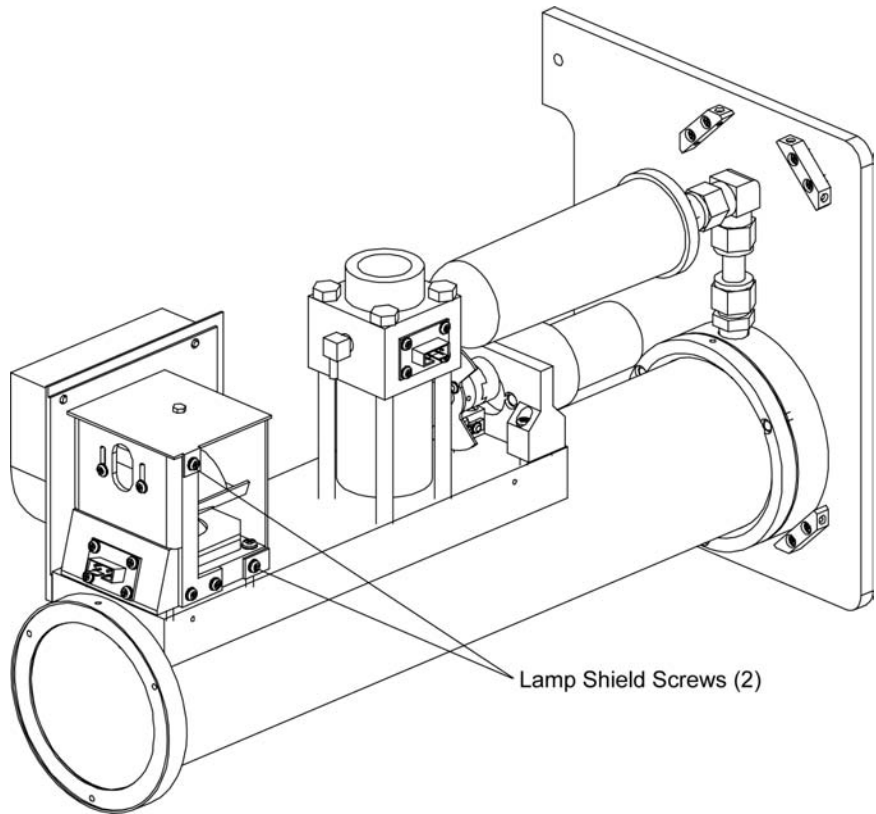

Figure 8-14
3. Unscrew the two screws attaching the lamp shield (Figure 8-14). Remove the shield, supporting the shield so that it does not hang by the sensor wires.